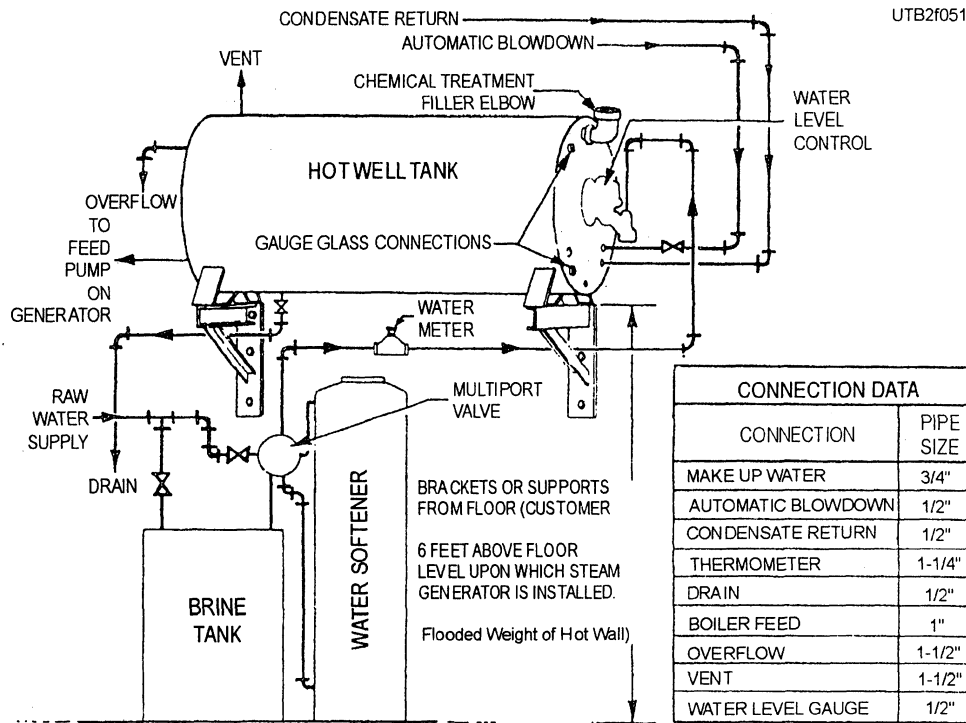

Figure 5-17.—A typical installation of horizontal hot-well tank and connection data.
- Typical hot-well installation and connection data are shown in figure 5-17. The hot well must be elevated on a suitable stand or bracket to